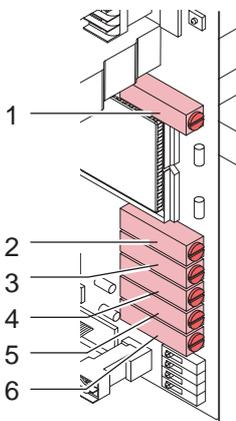
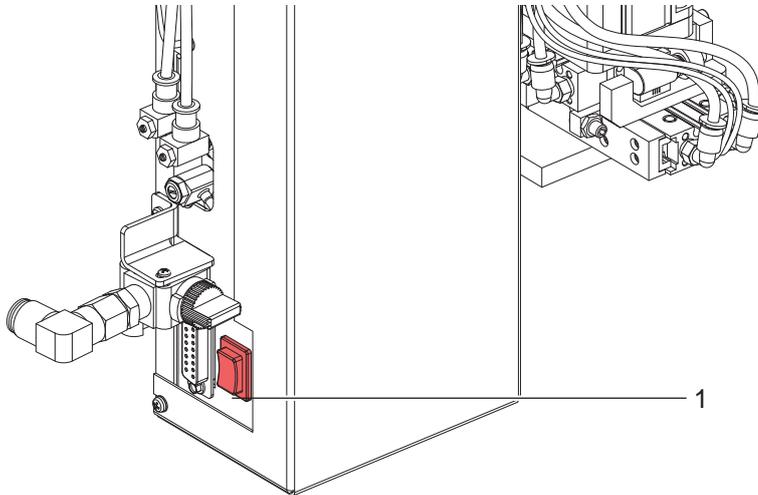

Fig. 16 Potentiometer
Fig. 17 Pre-dispense key
After removing the cover (2) of the manifold, 6 potentiometers (Figure 17) as well as 4 DIP switches (Figure 16) become accessible by which the parameters can be set.